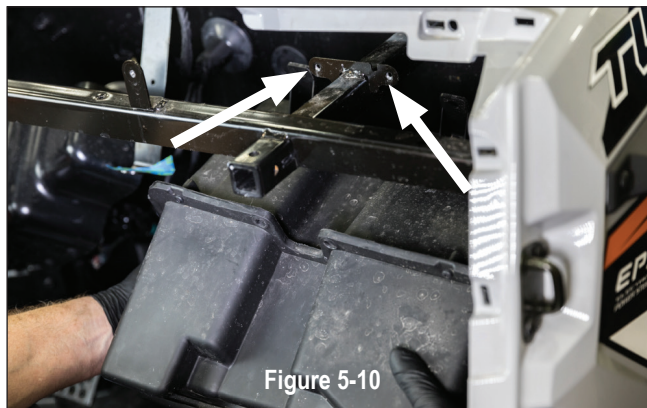

Figure 5-10
Remove (2) 10mm bolts on the top of the glove box where it is fastened to the grab bar framework. See holes in Figure 5-10. The glove box will easily slide out. A different mounting method is used for the new subwoofer.